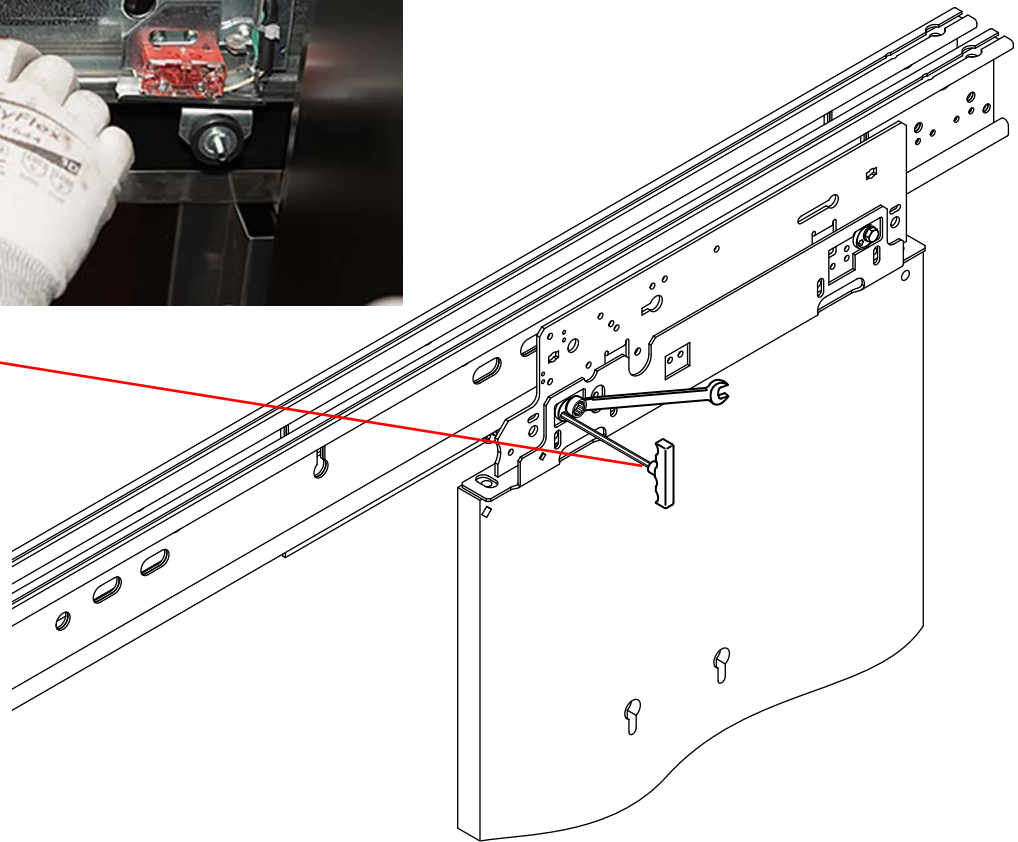

Figure 41 - Car Door Installation
8. Use a 6 mm T-handle Allen wrench to rotate the eccentrics and align the car door panel with the return. See Figure 41.